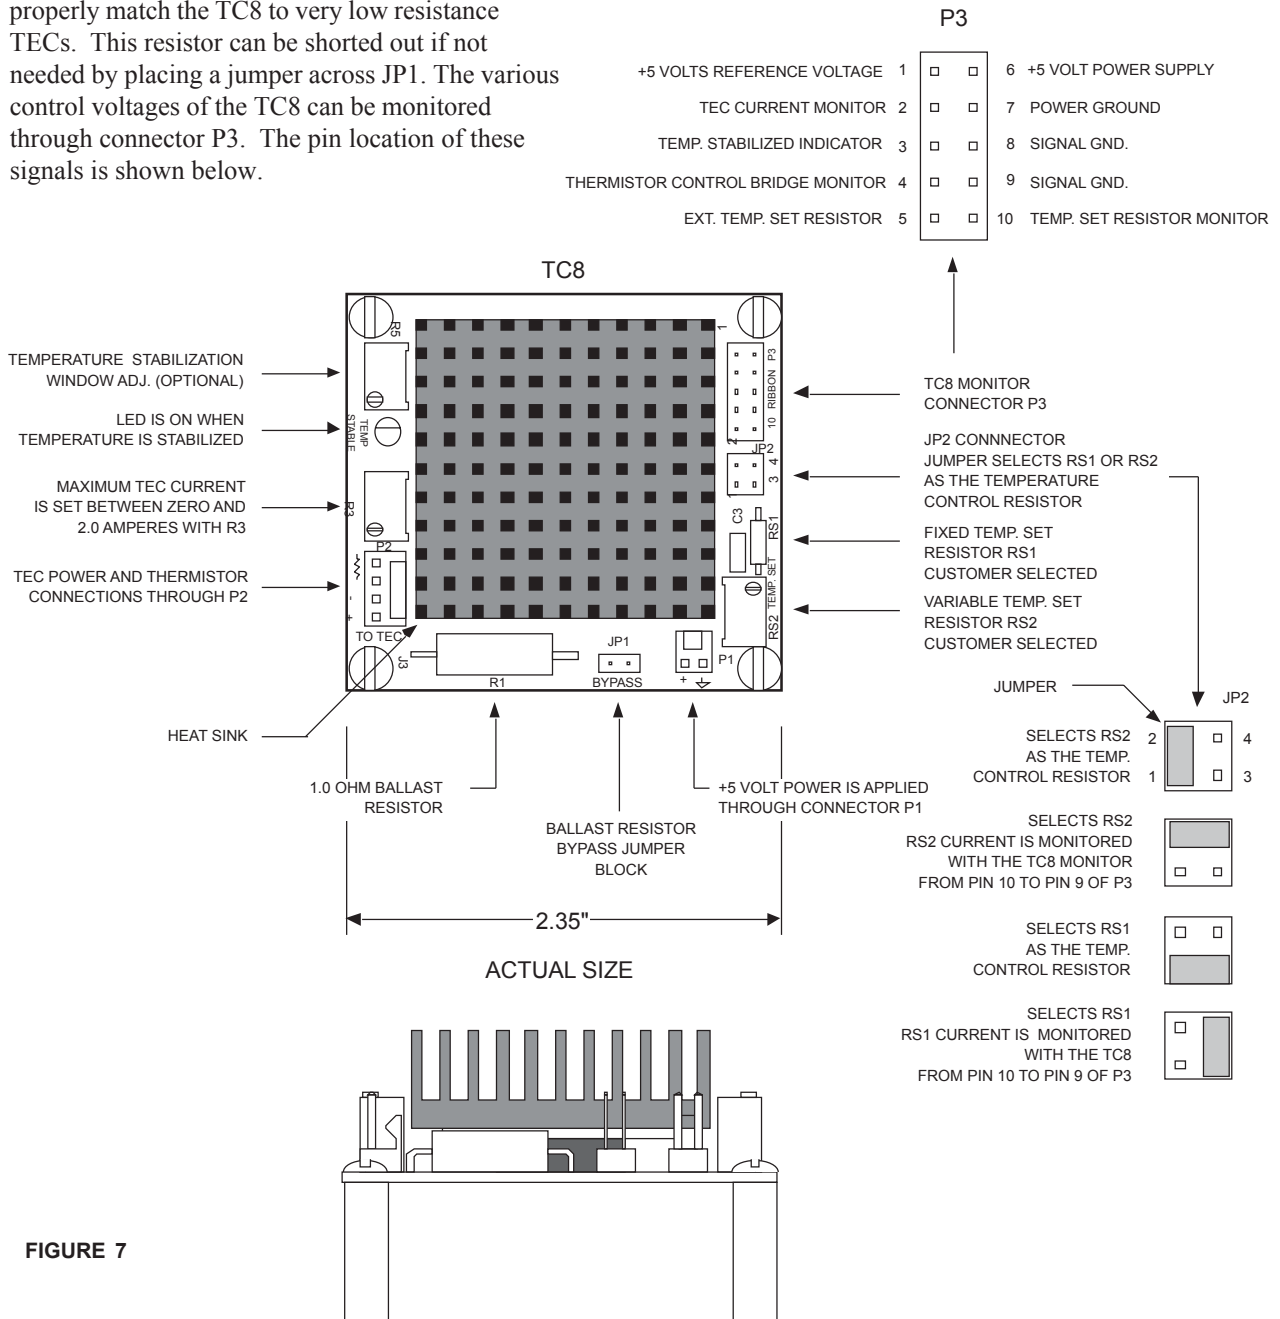

FIGURE 7
3. Select the temperature control resistor location (R_{S1} or R_{S2}) by placing a jumper bar across the appropriate pin on connector JP2. The shorting bar has been placed in the position that selects R_{S1} , at the factory. Shorting bar placement that selects R_{S2} is illustrated in Figure 7.